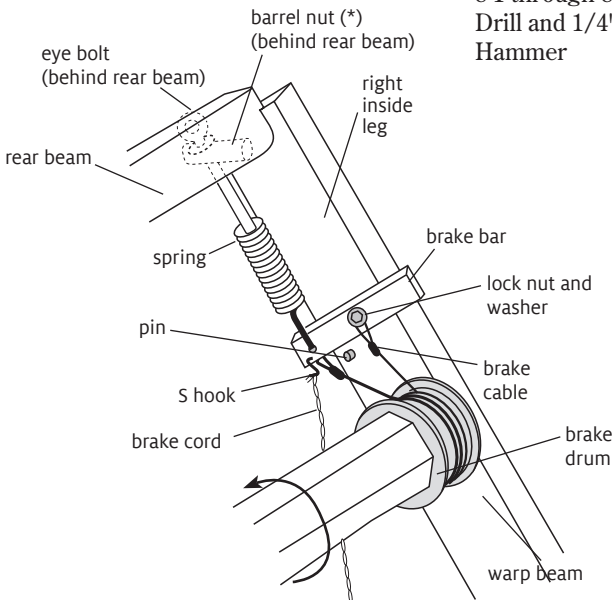

FIGURE 1: NEW BRAKE SYSTEM
- Standing at the back of the loom, hold onto the warp beam and twist it towards you (see arrow in figure 1) to loosen the cable slightly.